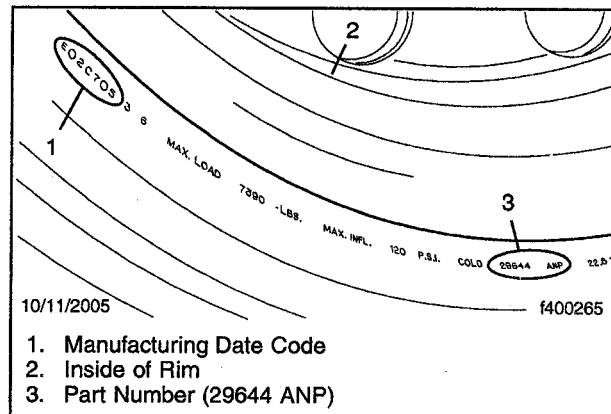

Fig. 1, Wheel Inspection (front wheel shown)
3. Inspect the wheels for the manufacturer's date stamp and part number 29644 ANP. The first six digits of the stamp are the manufacturing date (day, month, year). The manufacturing dates covered by this recall are January 15, 2005, through January 17, 2005 (one of these three date codes: 011505, 011605, or 011705). See **Fig. 1**.